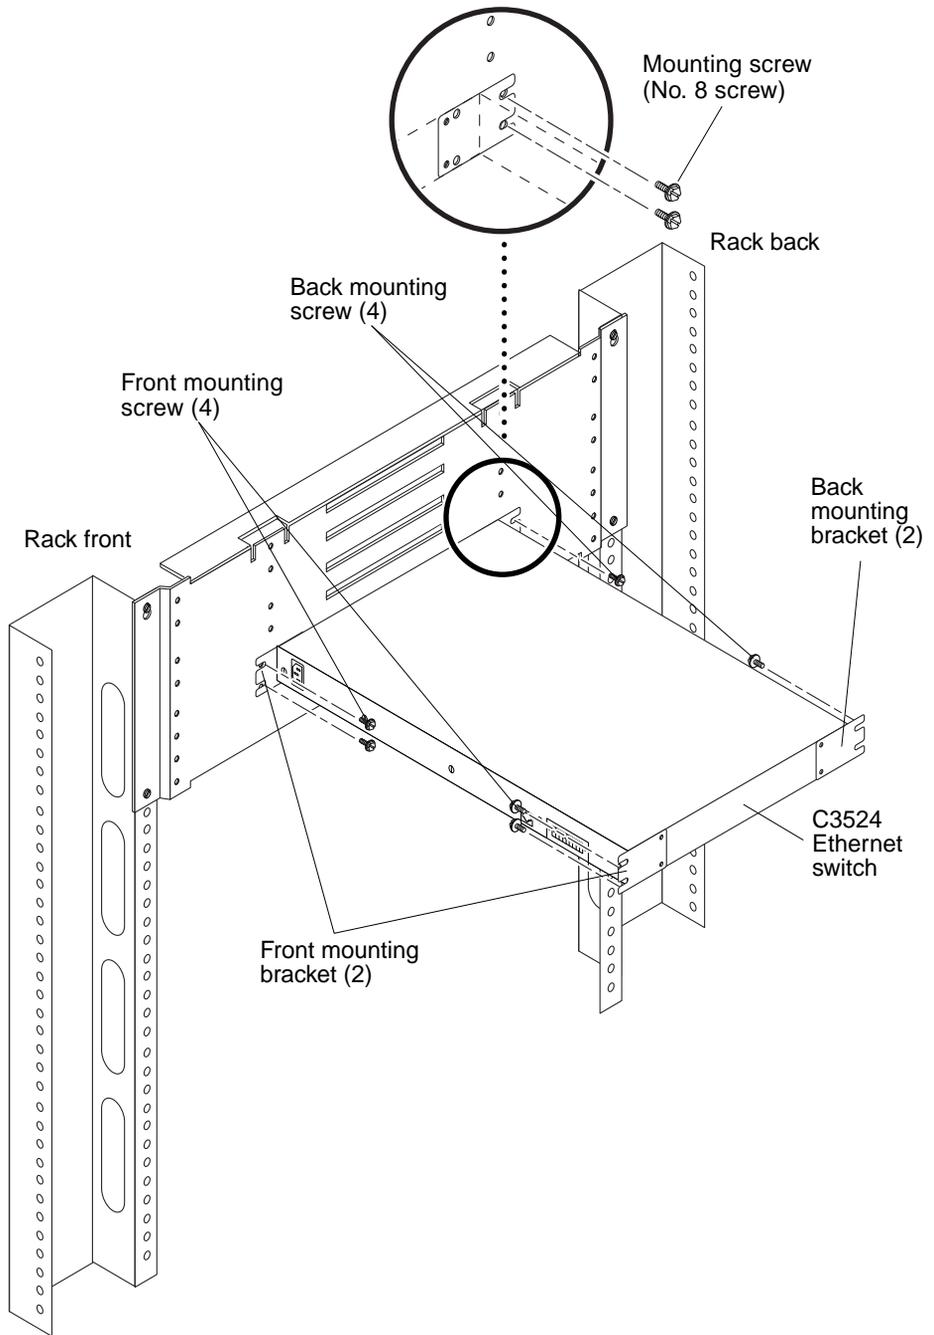

FIGURE 10 Removing and Replacing the C3524 Ethernet Switch
- b. **Using a No. 2 Phillips screwdriver, loosen the back mounting screws securing the Ethernet switch chassis to the mounting plate (FIGURE 10).**
- a. Using a No. 2 Phillips screwdriver, remove the front mounting screws securing the Ethernet switch chassis to the mounting plate (FIGURE 10).**
- 3. From the front of the rack (FIGURE 10):**
- 4. From the back of the rack (FIGURE 10):**